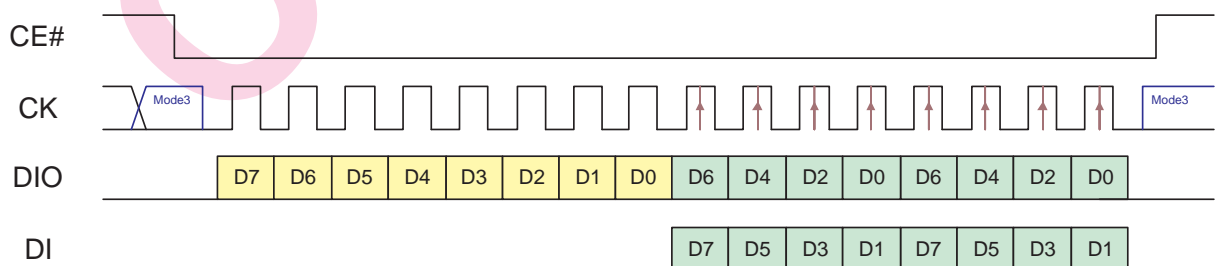

Figure 63: SPI Flash 2 Input R/W Timing
- Figure 63: SPI type flash read/write timing with dual input mode